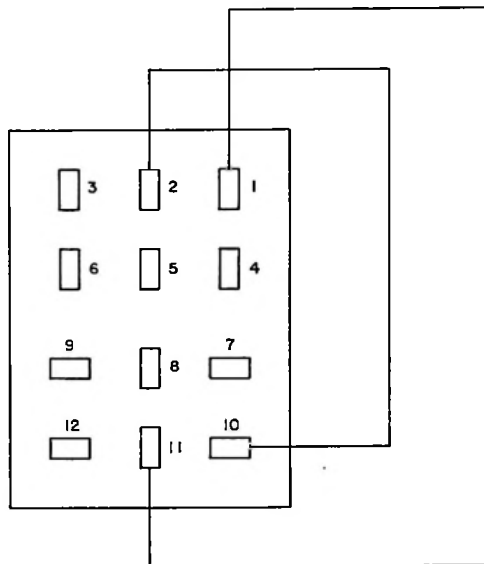

Figure 2-3. Jumper Plug, Schematic Diagram
c. Insert 356A-1 Preamplifiers or jumper plugs into J1 through J5. The number of preamplifiers or jumper plugs is determined by the number and types of inputs that are to be used. If a mixer input is used that does not require a preamplifier (such as a turntable or tape playback unit with self-contained preamplifiers), use a jumper plug in place of Preamplifier 356A-1. Figure 2-3 is a schematic diagram of the jumper plug.